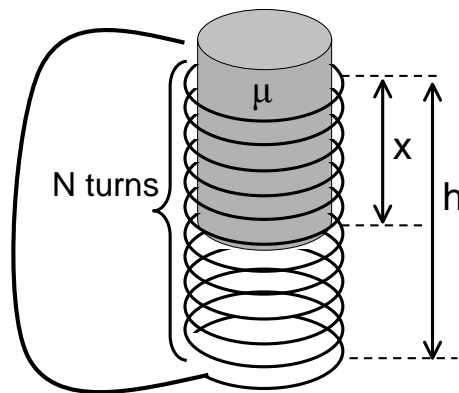

Figure 4.2 Solenoid with partially inserted core
- (a) Consider a solenoid with a partially inserted core of magnetic permeability μ , shown in Figure 4.2. The solenoid has a total of N turns, height h and cross sectional area A . The solenoid was attached to a power supply sometime in the past, but now the two ends of the coil form a short.